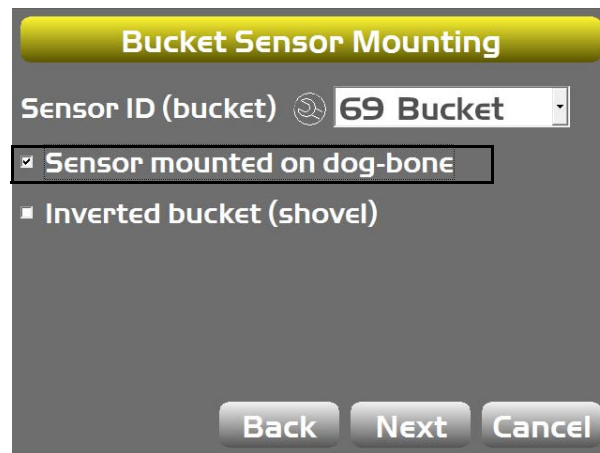

Figure 38: Check Sensor Mounted on Dog-bone.
5. Check the **Sensor mounted on dog-bone** check box, and tap **Next** (Figure 38).